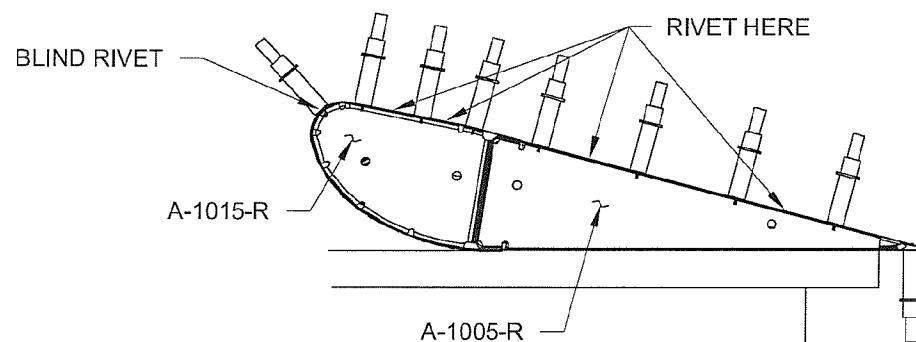

FIGURE 1: PARTIALLY RIVET END RIBS
Step 1: Remove the aileron assembly from the cradle and lay it on its top with the trailing edge clecos hanging over the edge of the table as shown in Figure 1. Weight the aileron down to keep it flat.
Set two rivets in the lower flanges of the A-1015-R Inboard Nose Rib and the A-1005-R Main Rib as shown in Figure 1 using a rivet squeezer. See Page 21-6, Figure 5 for call-outs for rivets through A-1015-R. See Page 21-8, Figure 6 for call-outs for rivets through A-1005-R.